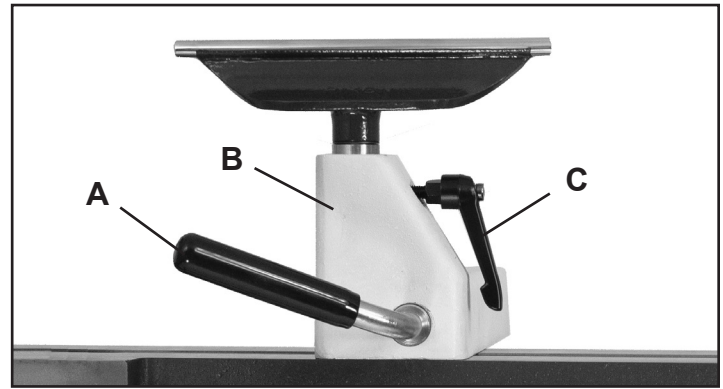

FIG. 4
1. **TOOL REST BODY LOCK HANDLE:** (FIG. 4, A) This cam action lever handle locks the tool rest base (B) down in position on the lathe bed. Unlock handle to position the tool rest in any location along the lathe bed. Tighten the handle when the tool rest is properly located for safe turning of the workpiece. See page 13 for adjusting clamping pressure.
2. **TOOL REST LOCK HANDLE:** (C) Locks the tool rest in position for supporting your tools during turning. Unlock the handle to adjust the tool rest at a specific angle, or height. Tighten handle when properly positioned.